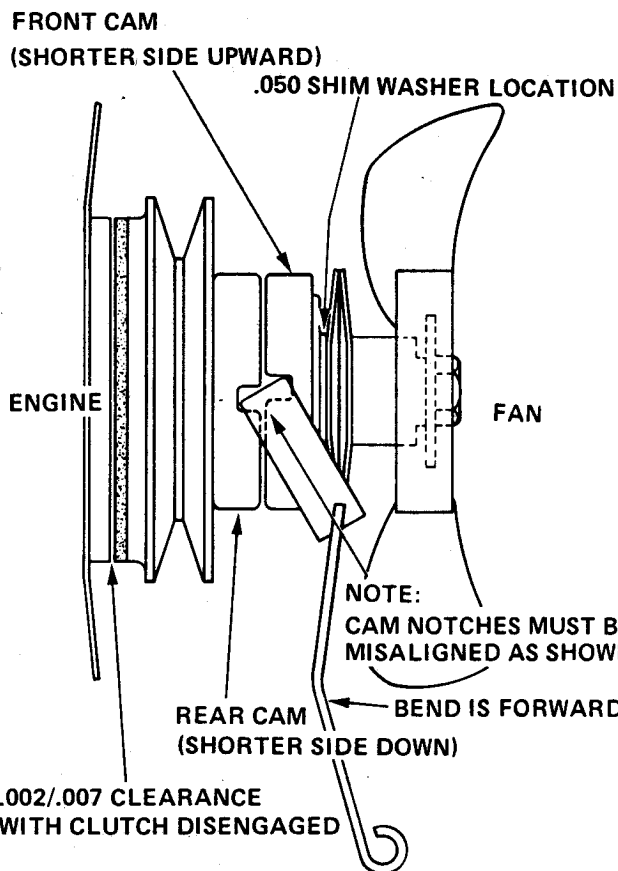

FIGURE 6
- a. Connect the drive hub (1) to the engine flywheel with original four cap screws (20) and new 3/8" lockwashers (21).
- b. Secure the screen and clutch plate to the drive hub with original machine screws (4) and new lockwashers (5). Tighten the machine screws securely.
3. Fit two springs (7) together and place on drive hub. Install .050" shim (8) then match two more springs and install. Place second .050" shim on hub and install the last two springs and .050" shim for a total of six springs and three shims.
4. Place disc pulley and bearing assembly on clutch hub with disc facing backing plate (3). If disc is not bonded to pulley, make sure disc remains on pulley shoulder during assembly procedure.
6. Place rear cam (12) on drive hub (2) or (25) so that notch faces out, then install retaining ring (14) and front cam with notches facing in.
7. See Figure 6. Rotate the cams until the lever notches are misaligned as shown. The rear cam on drive hub must be positioned so the shorter side is downward and the front cam must have the shorter side upward.
NOTE: If clutch does not engage or disengage properly, check for correct cam assembly according to steps 7 and 8 above. When correctly installed, the facing notches on the front and rear cams are "out of alignment" in the manner shown in Figure 6 with the clutch in both the engaged or disengaged positions. Repeat steps 7, 8 and 11 to correct either friction clearance or cam assembly.